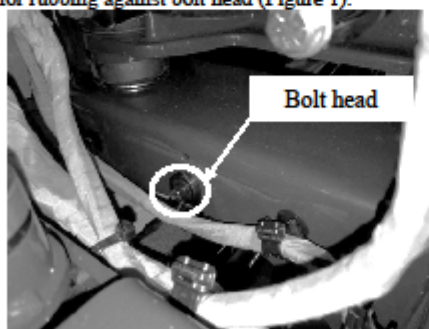

Figure 1
1. Inspect the generator high voltage wiring harness for rubbing against bolt head (Figure 1).